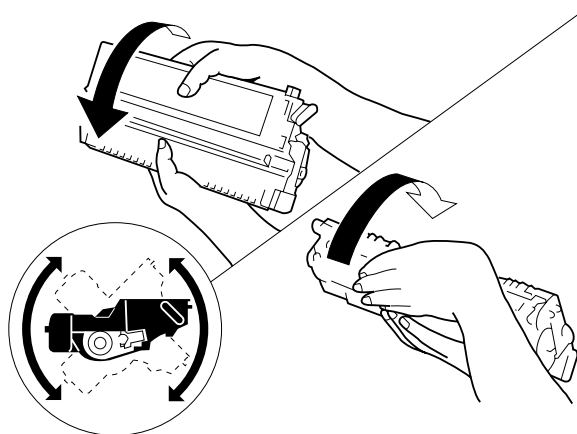

Figure 1-1
- a. Before setting the cartridge in the machine or if copies have white spots as when it starts to run out of toner, hold the cartridge level and shake it about 90° several times as shown in Figure 1-1 to even out the toner inside.